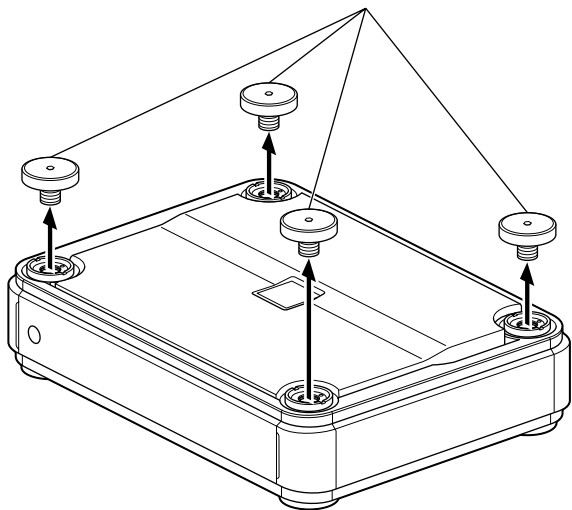
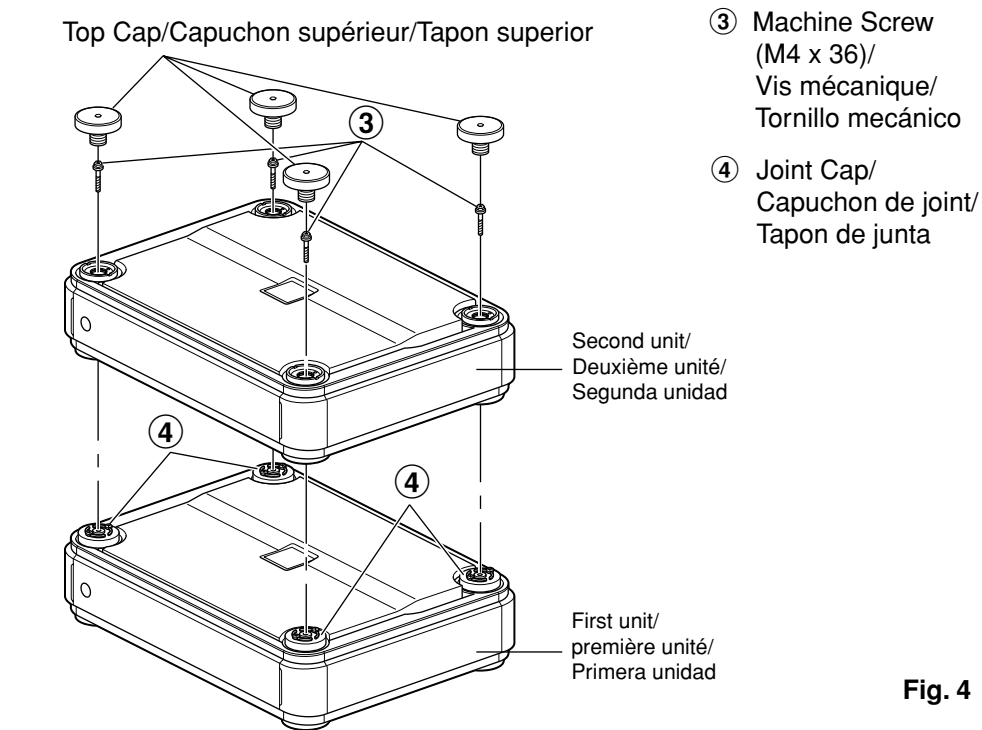

Fig. 1
Fig. 4
### INSTALLATION (Fig. 1 - Fig. 4)
- Remove the four corner top caps on top using the hexagon wrench (large, supplied). Refer to fig.1.
- Insert the four machine screws (M4 x 36, supplied) through the top of the second unit into the four joint caps of the lower unit to connect them together. Refer to fig.4